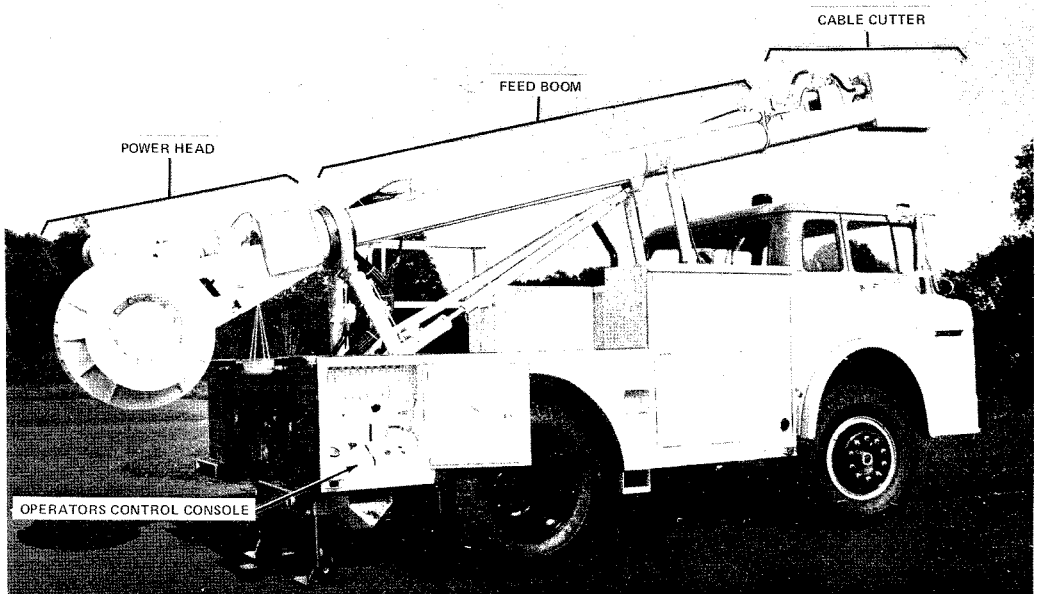

Fig. 1—MCV Mobile Cable Salvaging Vehicle
**2.01** The main assembly of the MCV (Fig. 1), which includes the power head, the feed boom, and the cable cutter, is supported on hydraulic cylinders. This provides the capability of moving the boom to an infinite number of positions, within the operating range of the hydraulic cylinders, for positioning the power head at the manhole and the discharge end over the scrap hauling vehicle.